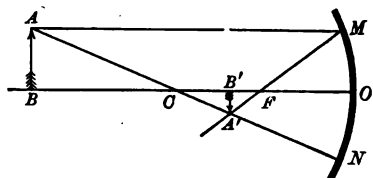

FIG. 397.—Construction of image in concave mirror.
Suppose  $MON$  (Fig. 397) is a concave mirror, of which  $C$  is the center of curvature. Let  $AB$  be an object which is placed beyond the center of curvature. To determine the position of the image, let us trace two rays from  $A$ . The point  $A'$ , where they intersect after reflection, is
**427. Conjugate foci.** We have seen that when  $A$  is the object point, the image point is at  $A'$ . But figure 397 shows that if  $A'$  is the object point, the image point is at  $A$ ; for the rays will travel the same paths in the other direction. For example, if a candle were put at  $AB$ , an inverted smaller image would be formed on a screen placed at  $A'B'$ ; also if the candle were put at  $A'B'$ , the image would be inverted, larger, and located at  $AB$ .